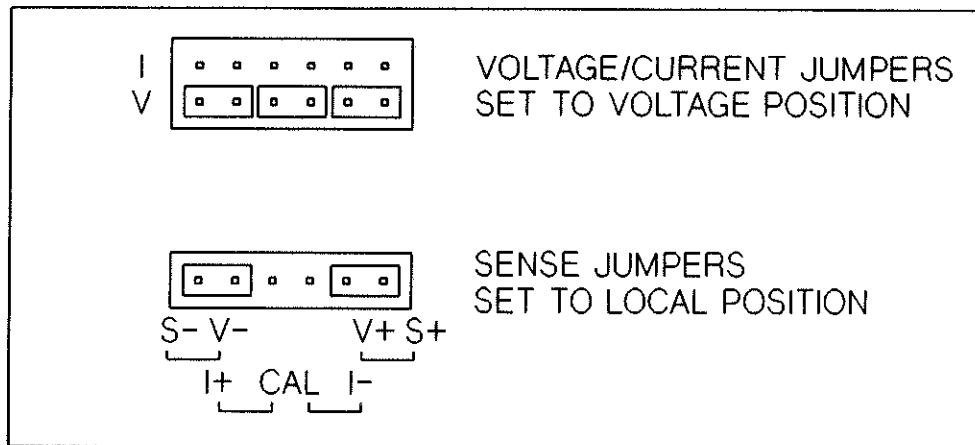

Figure 15-5 Configuration Jumpers set to Voltage/Local Positions
- b. Configure the test fixture for each voltage channel by moving the configuration jumpers on the test fixture to the positions shown in Figure 15-5. Make sure the Sense jumpers are in the LOCAL position (and not the CAL position) as shown in the figure.
4. On the test fixture, make sure the Sense jumpers are set to the LOCAL position as shown in Figure 15-5 or 15-7.